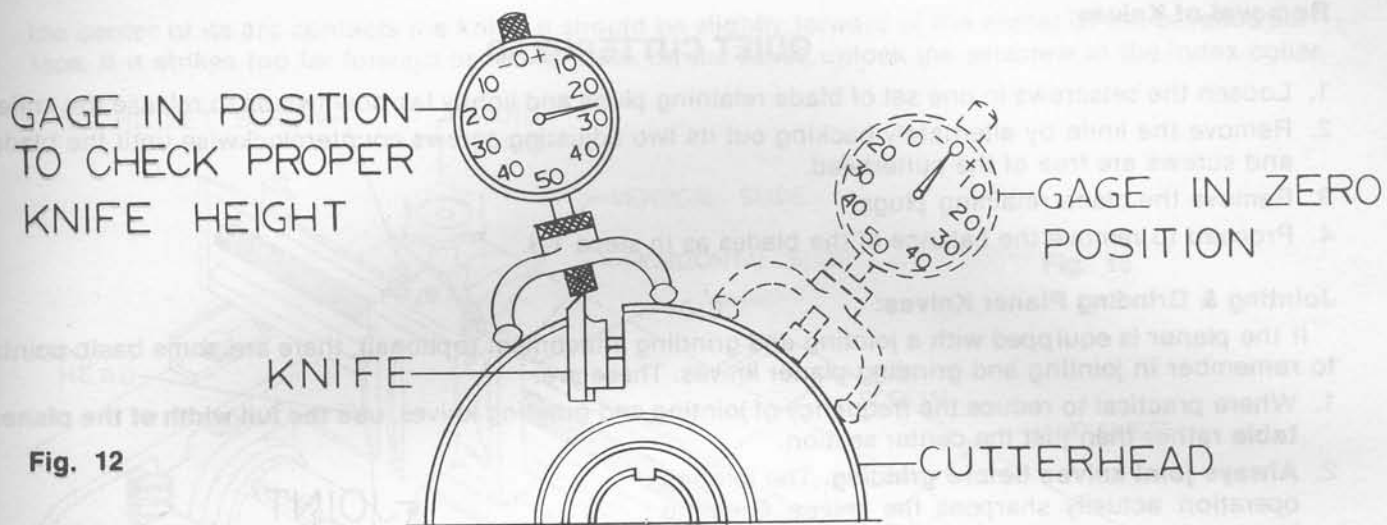

Fig. 12
4. Take the cutterhead knife gage (Fig. 12) and zero it on the cutterhead outside diameter. As a reminder, different size planers have different cutterhead diameters so that the zero point should be checked before using the gage.
5. Working from the bevel side and close to an outside jackscrew, slide the indicator on the radius of the cutterhead body to establish the high point of the knife (Fig. 12).